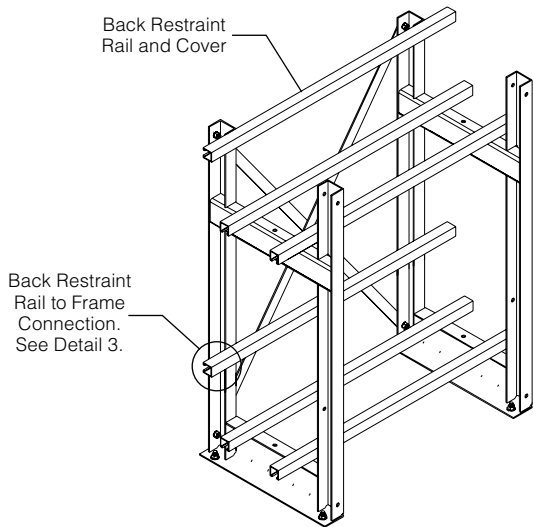

Figure 6. Initial Step For EP Rack
- 7 EP Rack Assembly (Continued):** Install all back restraint rail(s) and cover(s). See Figure 6. If installing a rack to hold either a JC or XTJ battery system, the provided spacer block must be installed between the restraint rails and the frame. See Detail 3. Position front restraint rail and cover temporarily next to front support rail prior to installing cells. DJ Series battery racks to utilize lower set of restraint rail holes to avoid interference with the handles.